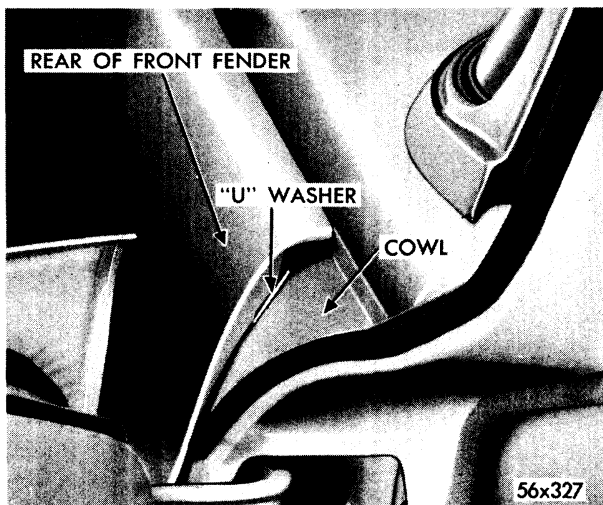

Fig. 10—Installing U-Shaped Washer
**Rear of Fender Lower than Cowl Panel**—To raise rear of fender at door-cowl meeting, loosen bolts that attach fender to "A" post, raise fender, using jack until correct position has been obtained. Install horseshoe shims between cowl and fender bracket, as shown in Figure 10. Retighten bolts securely.